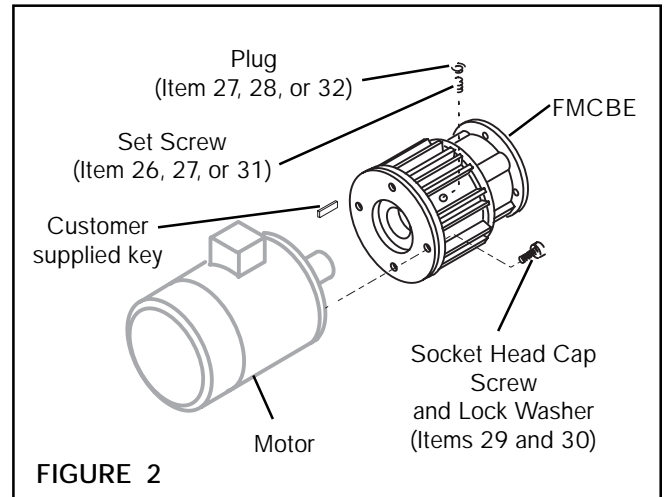

FIGURE 2
2. Insert the customer supplied key into the motor shaft keyway (See Figure 2).
3. Slide the FMCBE onto the motor shaft (See Figure 2).
4. On Model 625, secure the FMCBE to the motor using Socket Head Cap Screws (Item 29) and Lock Washers (Item 30) and tighten them to the recommended torque (See Figure 2 and Table 1).
5. Align the hole in the FMCBE Housing (Item 1) with the tapped hole in the Drive Disc (Item 4) (See Figure 2).
6. Insert and tighten the Set Screw; then, install the Plug (See Figure 2).
7. On Model 625, secure the FMCBE to the motor using Socket Head Cap Screws (Item 29) and Lock Washers (Item 30) and tighten them to the recommended torque (See Figure 2 and Table 1).